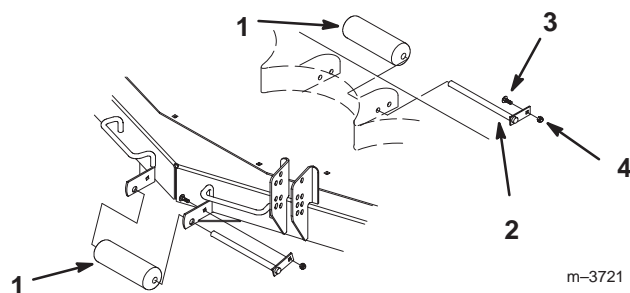

Figure 18
4. When using 1 in. (25 mm) height-of-cut front and rear rollers must be removed (Fig. 18).